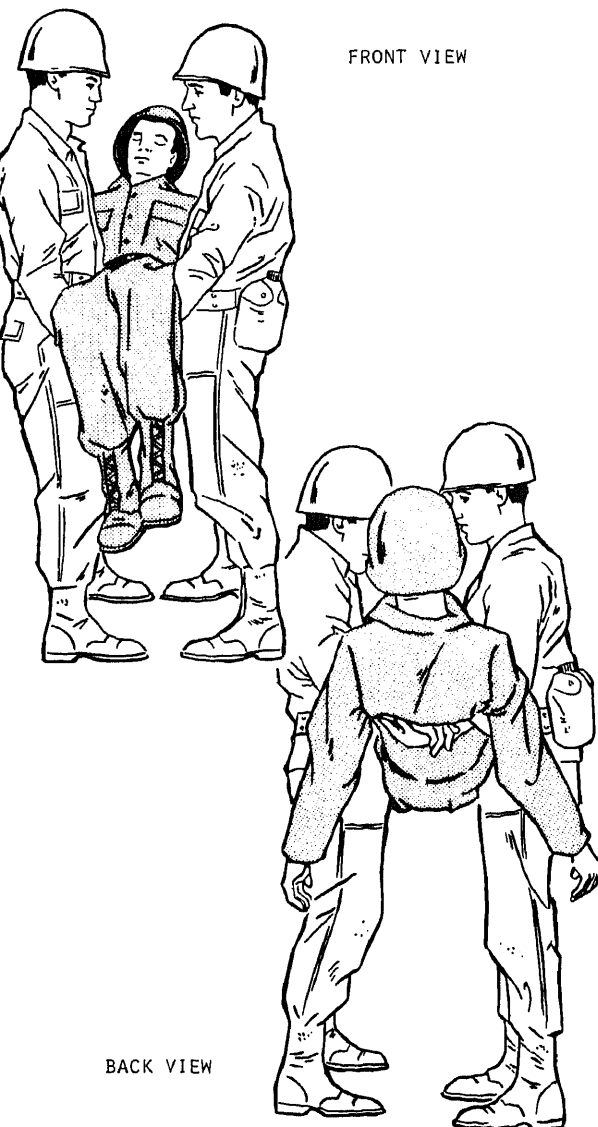

Figure 18-42.—Four-hand arms carry (front and back views).
1. Two men kneel on opposite sides of the casualty at his hips (fig. 18-42).